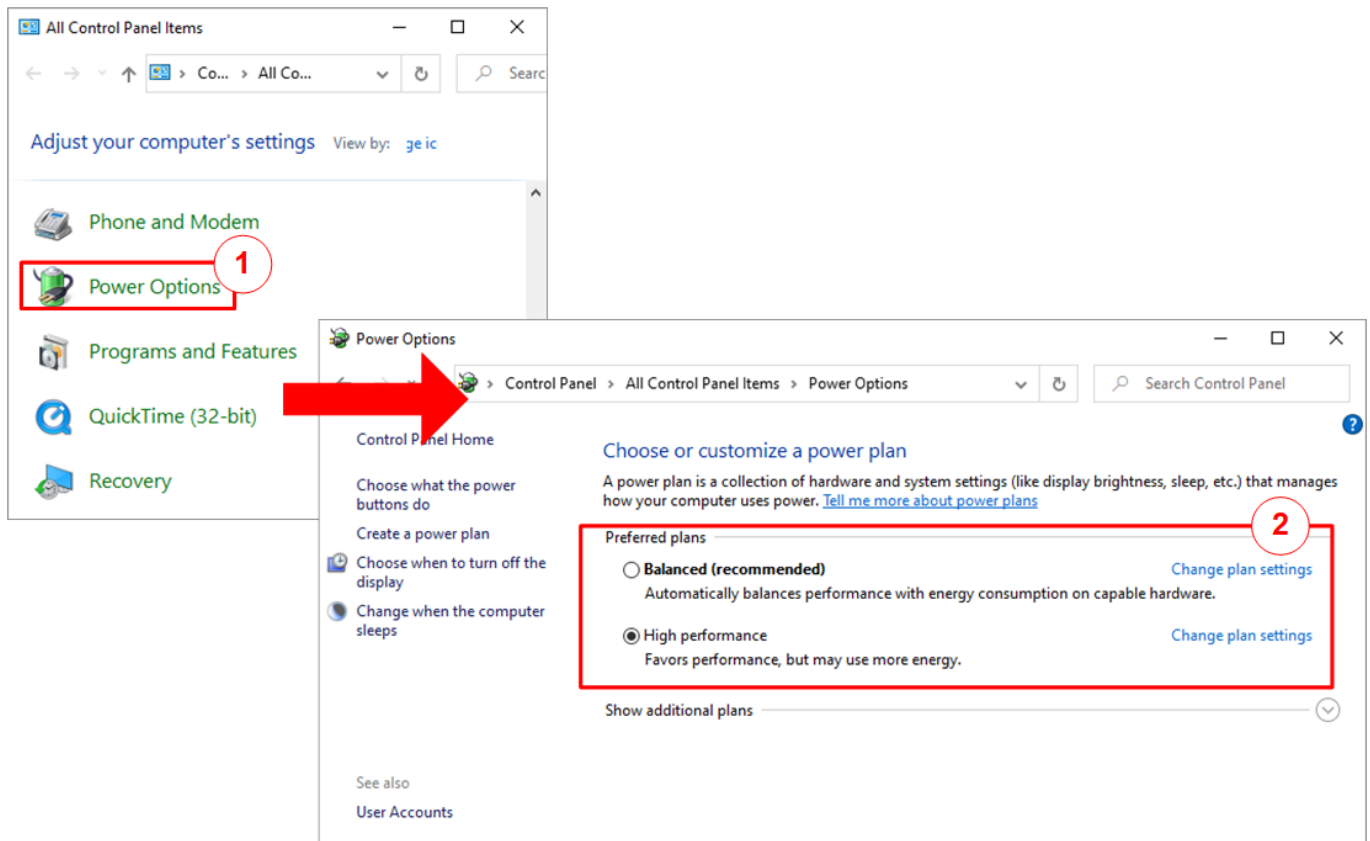

Figure 2-4 Power options
- 1) Open Control Panel and select Power Options as shown in the left window of Figure 2-4.
- 2) Change setting to High Performance as shown in the right window of Figure 2-4.